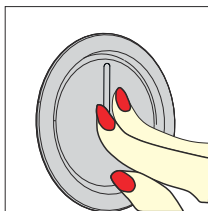

Fig. 15: Pop out off
- Press inward to pop out the button and then adjust (Fig. 15).